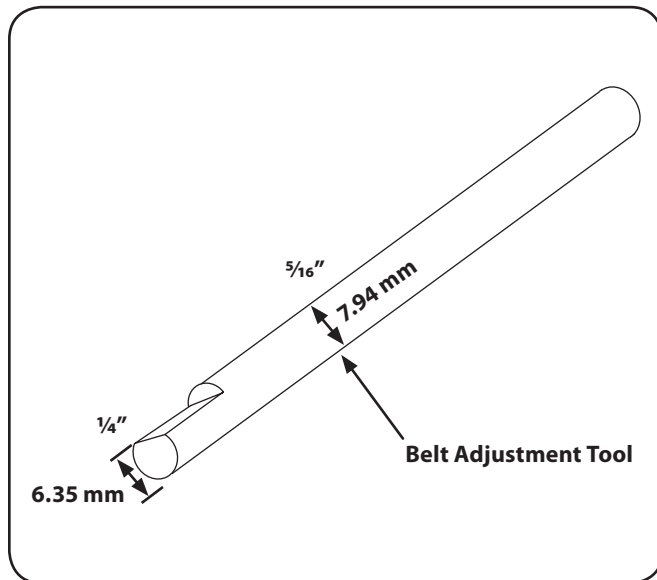

Figure 6-12
- Before taking a measurement, be sure the linkages and pivot points on the Wheels/Tines/PTO Drive Lever are clean and lubricated. If there is any binding, you won't get true measurements. Also, you'll need the belt adjustment tool you received with your new tiller. See Figure 6-12.